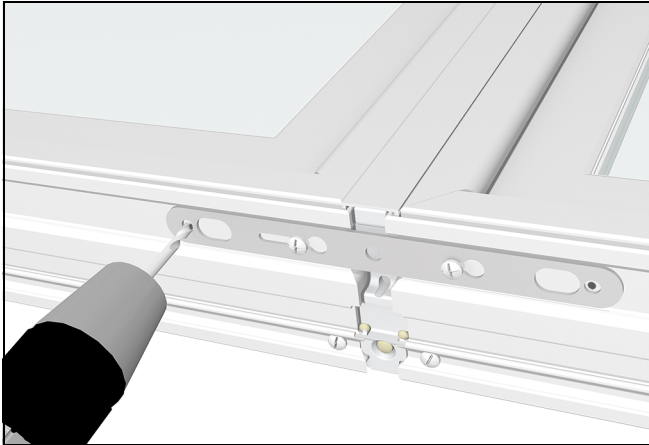

Figure 8
5. Using the 7/32" drill bit, drill out first layer of Ultrex using holes in end of bracket as a guide. Fasten all rivets. See Figure 8. (Sill mull brackets on sliding window products do not require rivets.)